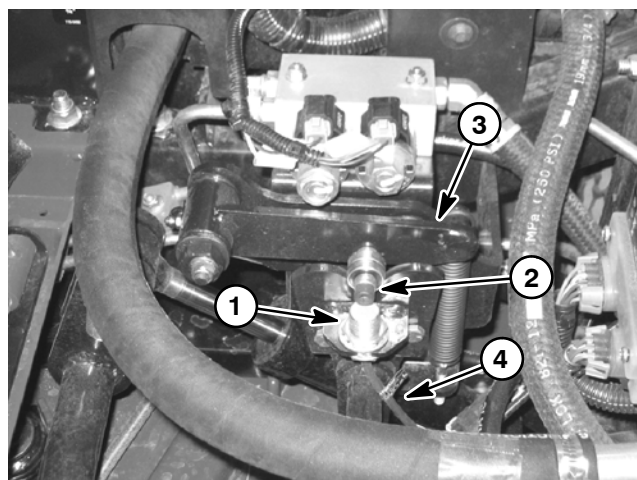

Figure 48
4. Turn ignition switch to the RUN position (do not start engine) and check LED on cable end of neutral sensor (Fig. 48). LED **should be** illuminated when the traction pedal **is** in the neutral position.